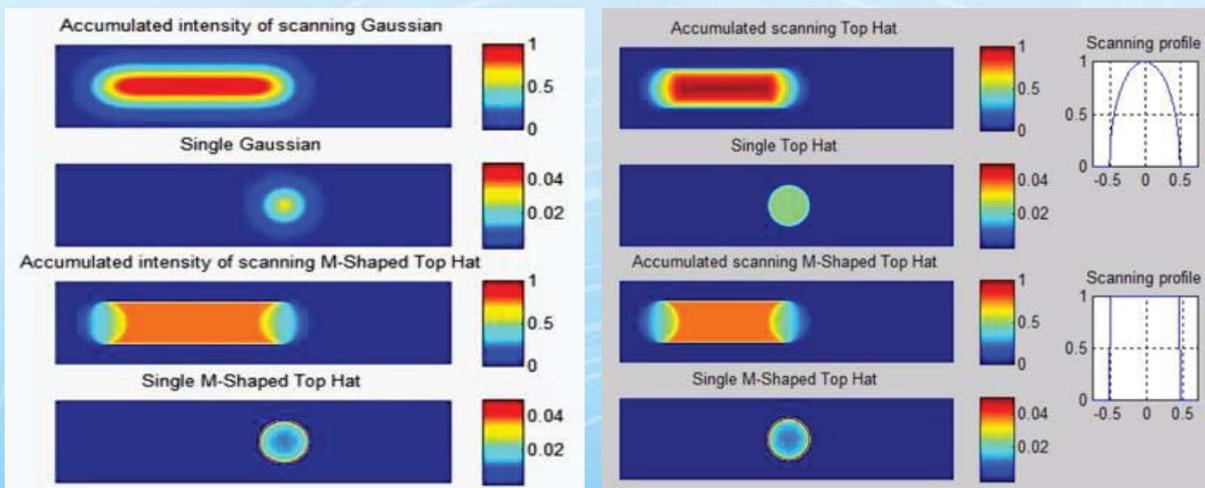

Figure 3 – Left: Gaussian intensity profile vs. M-Shaped profile, in scanning mode. Right: Top-Hat intensity profiles vs. M-Shaped profile.
1. In principal, to get a flat-top scanning profile (as shown in Fig.3), optical designer needs to notice the following points: